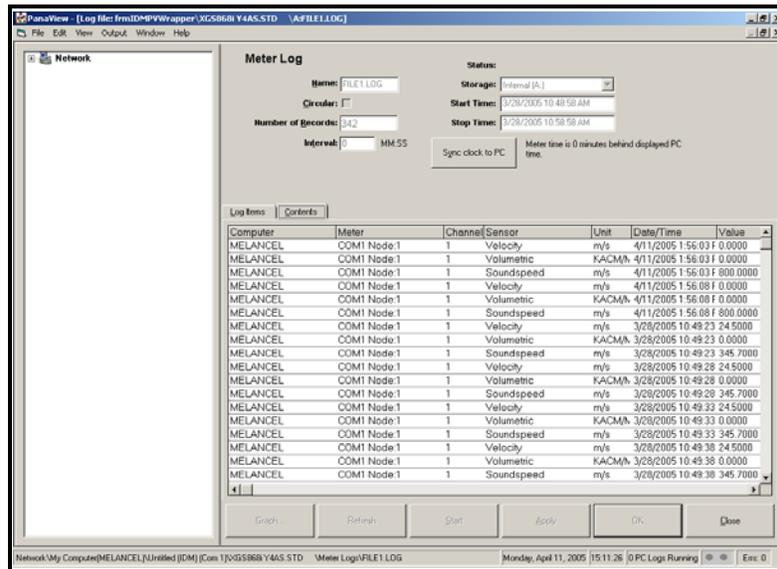

Figure 3-12: Typical Log Contents
- Click on the *Contents* tab (see Figure 3-12 on the next page) for a list of all the data points logged to date for the parameter currently highlighted on the *Log Items* tab.
Remember that only two parameters per channel may be graphed, and that the same two parameters must be graphed for each channel of a multi-channel graph display. When you have finished viewing the graph, click on the [Close] option button to close the Graph window and leave the log running. To review log details, click on the *Contents* tab. The window now appears similar to Figure 3-12 below.
- Click on the *Log Items* tab (see Figure 3-12 on page 3-11) for a list of the parameters specified for logging.
- Click on the *Contents* tab (see Figure 3-12 on page 3-11) for a list of all the data points logged to date for the parameter currently highlighted on the *Log Items* tab.